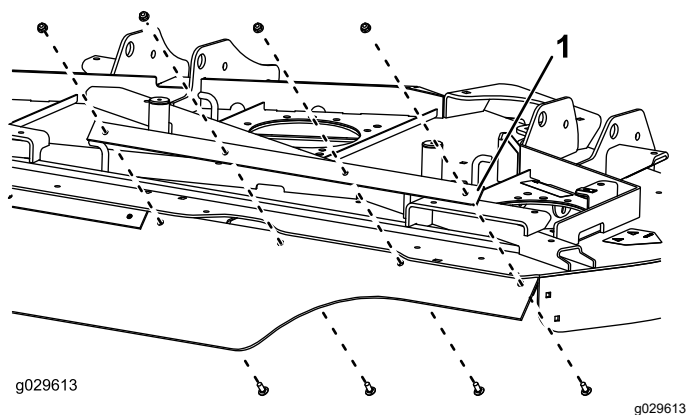

Figure 11
5. Loosely mount a support strap and the right (square) end of the deflector to the right chamber with 4 carriage bolts (5/16 x 7/8 inch) and 4 nuts (5/16 inch) as shown in Figure 11.